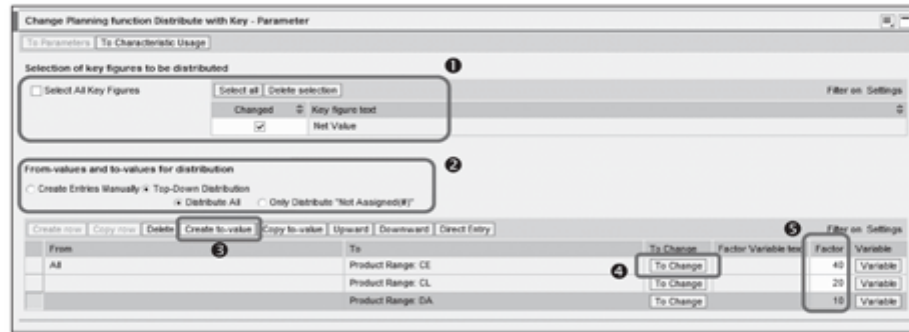

Figure 12.61 Define Planning Function Distribution with Key
To define the parameters for Distribution by Key, you have to first select the key figures that need to be distributed (❶ of Figure 12.61).
Note that the distribution weight is calculated based on the relative weight of the factors, so it isn't necessary for the sum of the factors to be 100%. For the example shown in Figure 12.61, the product range CE will get a value that is double the value product range CL will get. Similarly, product range DA will get a value that is half the value CL will get.